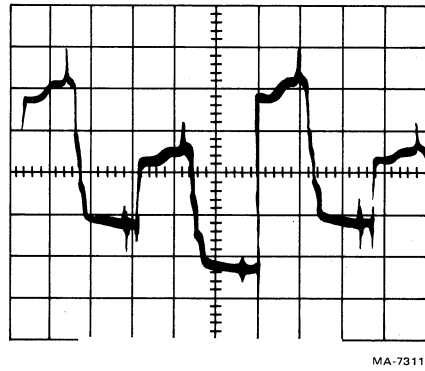

Figure 6-36 Write Amplifier Output With No Load
16. Flip MIA switch S1 to the right (FWD) and scope each of the write PCBA outputs at J6. Refer to Figure 6-32 for a pin diagram and signal table for J6. Figure 6-36 shows a write amplifier output waveshape with no load (P6 unplugged).